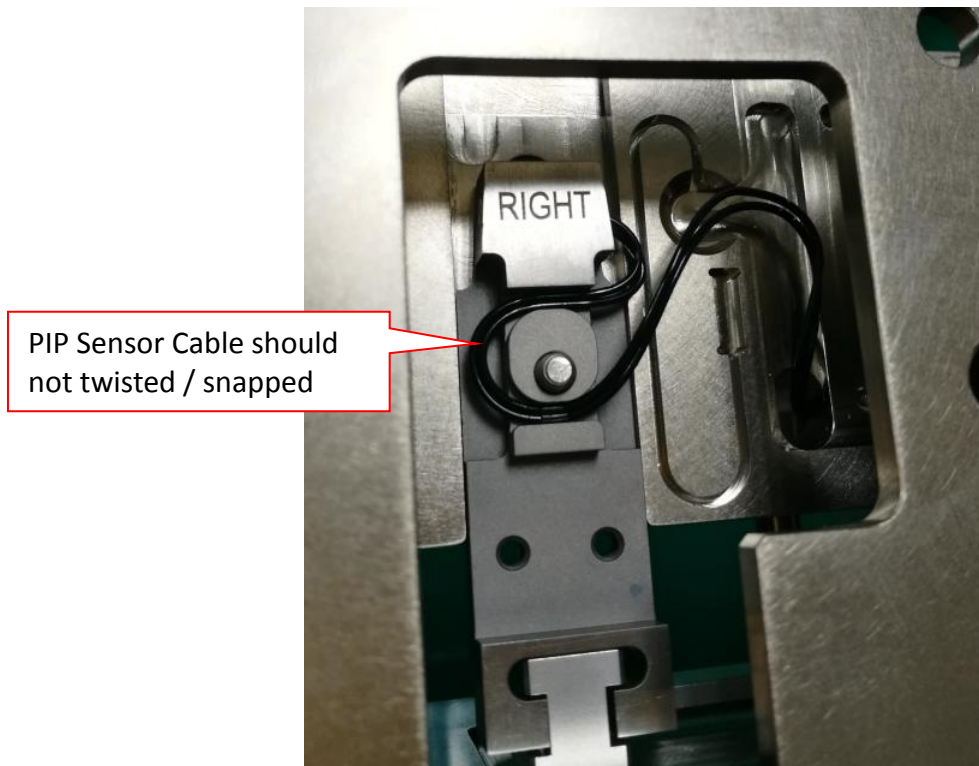

Figure 32 PIP S-shape Routing
3. Route PIP Sensor cable by refer to below routing. May refer to Figure 32